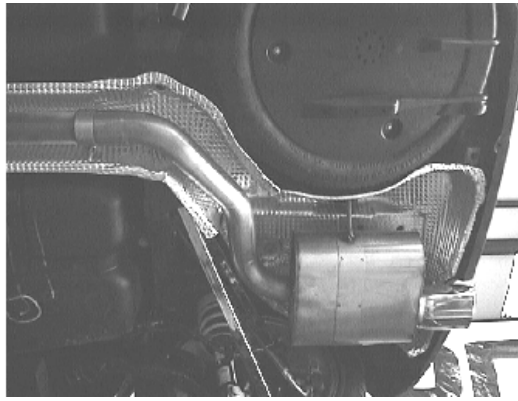

Figure 9
5. Place a clamp over the expanded end of the rear muffler assembly. Using a muffler stand or an additional person, hold rear muffler assembly into position shown in figure 9. Using the original hardware, secure the two rubber brackets to the vehicle.